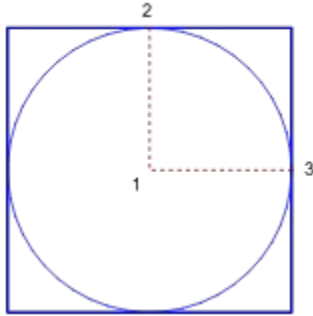

Figure 7
You can use the plan view in the main window for the next step. Choose Draw>Ellipse>Distorted. Click at the mid-point of the last-drawn square to specify the center of the ellipse (1). Set the other two points by clicking on the mid-point of the upper horizontal line (2) and the right hand vertical line (3) respectively. In the plan view, a circle will now have been drawn (Figure 7).